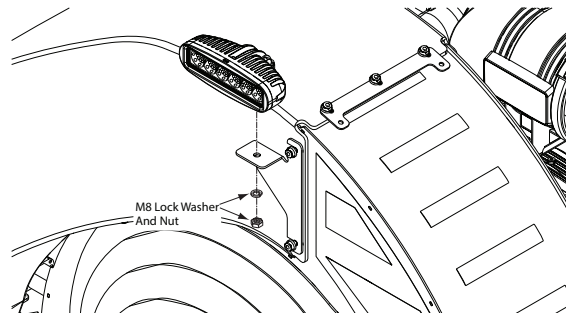

Figure 2. Installing WS LED Light Assembly
5. Mount the WS LED light assembly as displayed in Figure 2. Tighten the M8 nut (make sure the lock washer is in the correct place).